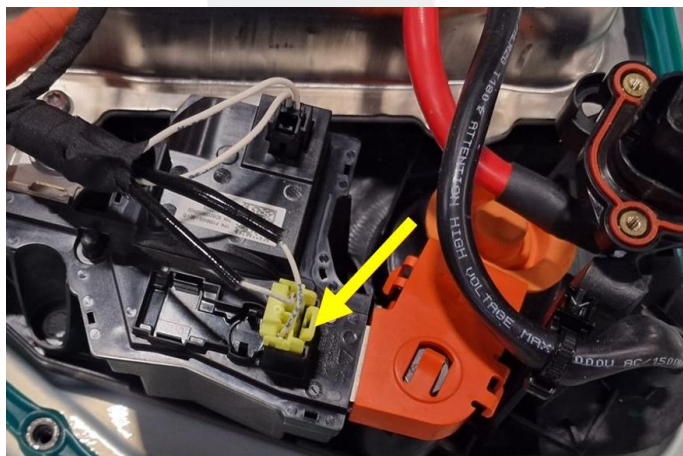

Figure 4
7. Disconnect the HV+ sense connector (Figure 4).